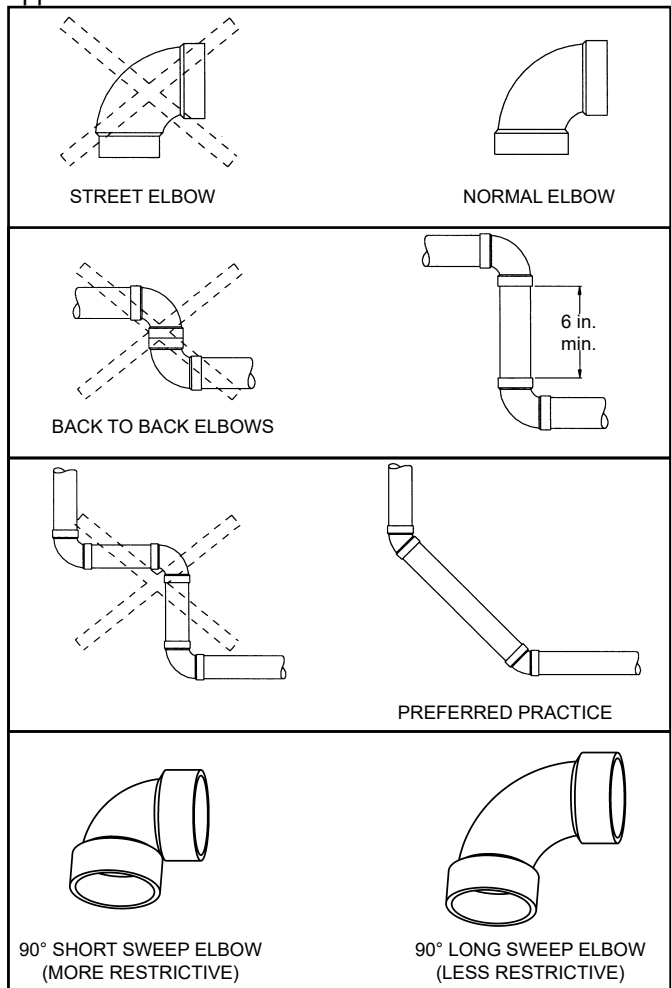

Figure 31.
**Note:** The information provided in Figure 31 is intended as a guideline for good vent installation practices only and is not intended to restrict venting options beyond those restrictions established by the current edition of the “**National Fuel Gas Code, ANSI Z223.1/NFPA 54**” or any applicable local and state codes.
3. Avoid using 90 degree elbows "back to back" and do not use street elbows. Maintain a minimum 6 in. straight section between elbows. Closely coupled and short radius elbows reduce the venting capacity. Figure 31 shows examples of vent pipe connections.